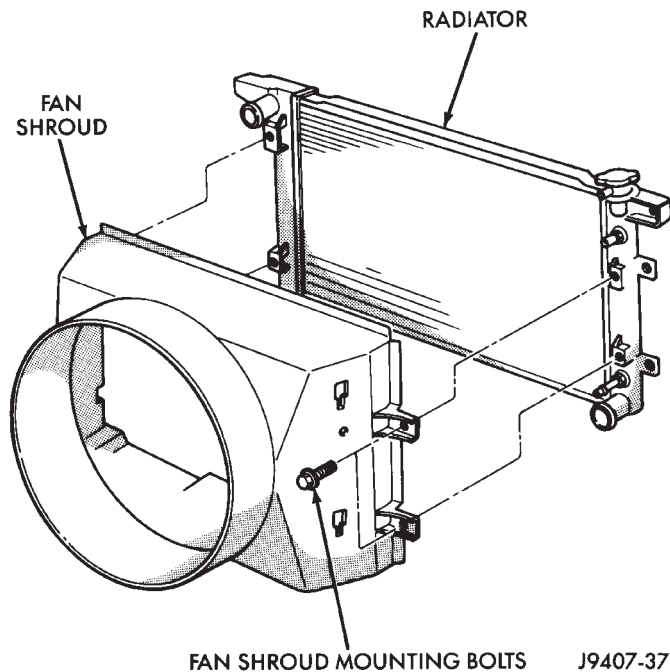

Fig. 38 Typical Fan Shroud Mounting
- (3) Remove windshield washer reservoir tank from radiator fan shroud. Refer to Group 8K, Windshield Wiper and Washer Systems.
- (4) Disconnect the coolant reserve/overflow tank-to-radiator hose at the tank.
- (5) Remove the four fan shroud mounting bolts at the radiator (Fig. 38). Do not attempt to remove shroud from vehicle at this time.